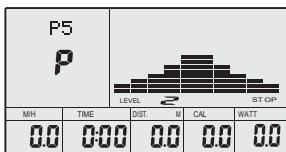

fig 25
- A. Press(or rotate) UP, DOWN button to select the program that you like. (See fig 25)